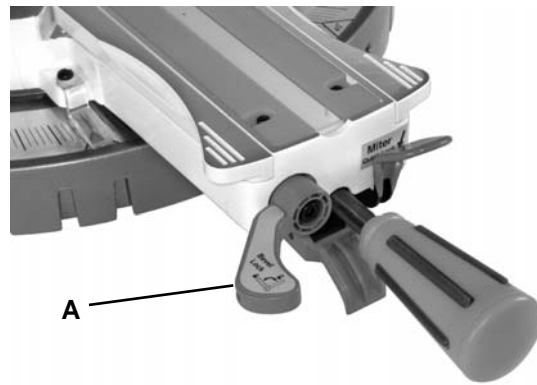
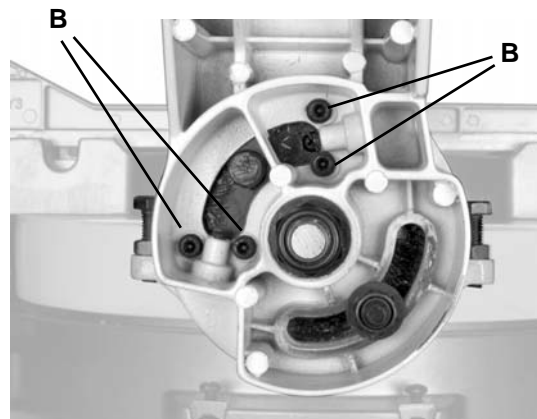
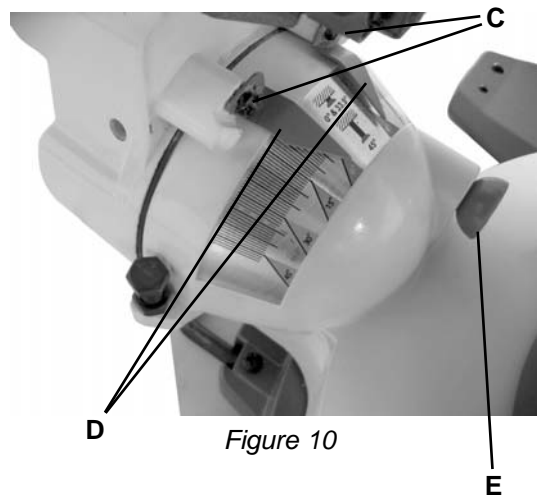
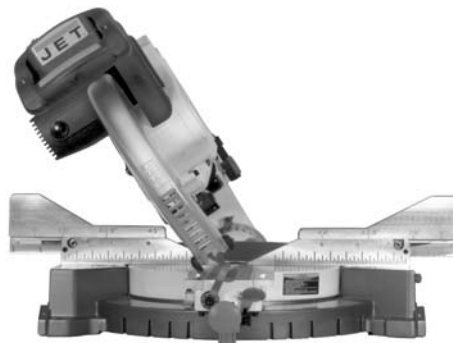

Figure 8
Figure 9
Figure 10
Figure 11
1. Turn the *bevel lock handle* (A, Fig. 8) clockwise to loosen and tilt the cutting arm while pushing the *bevel detent pin* (E, Fig. 10) in against the 0° bevel stop. Turn the *bevel lock handle* (A, Fig. 8) counterclockwise to tighten.
3. Using a 5mm hex wrench, loosen four *adjustment bolts* (B, Fig. 9) at the back of the miter saw. Unlock the *bevel lock handle* (A, Fig. 8) and position the cutting arm to be zero degrees to the table using the combination square as your reference.
4. Tighten the *bevel lock handle* (A, Fig. 8) and the four *adjustment bolts* (B, Fig. 9).
2. With cross-point screwdriver, loosen two *bevel indicator screws* (C, Fig. 9).
3. Adjust *bevel indicators* (D, Fig. 9) to the “0” mark on the bevel scale and retighten the screws (C, Fig. 9).
1. Set the miter angle to zero degrees. Fully extend the sliding fence completely to the left then pull the *bevel detent pin* (E, Fig. 10) out.
2. Loosen the *bevel lock handle* (A, Fig. 8) and tilt the cutting arm completely to the left (Figure 11).
2. Loosen the *bevel lock handle* (A, Fig. 8) and tilt the cutting arm completely to the right (Figure 13).
2. Loosen the *bevel lock handle* (A, Fig. 8).